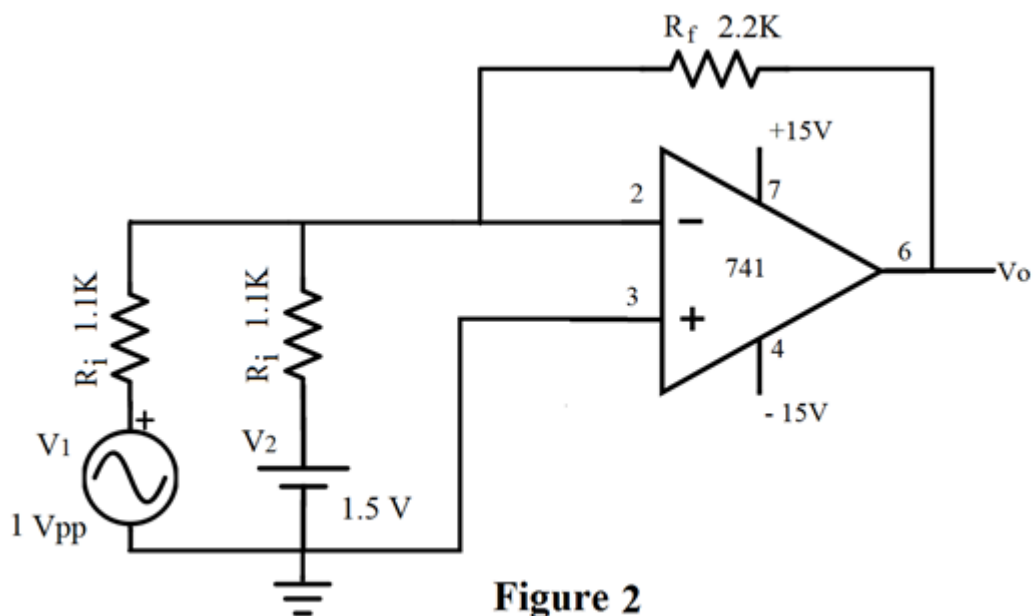

Figure 2
9. Repeat the procedure with $V_1=1V_{pp} / 1$ KHz sine wave and $V_2= +1.5V_{dc}$ as shown in fig2.